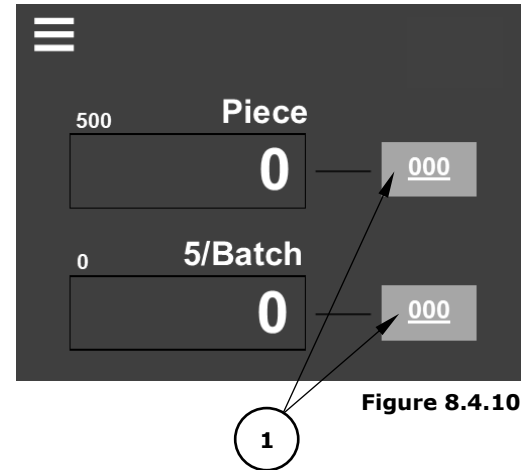

Figure 8.4.10
1. Tap on the areas indicated in Figure 8.4.10 to reset the counters. The display will jump back to the last lot.